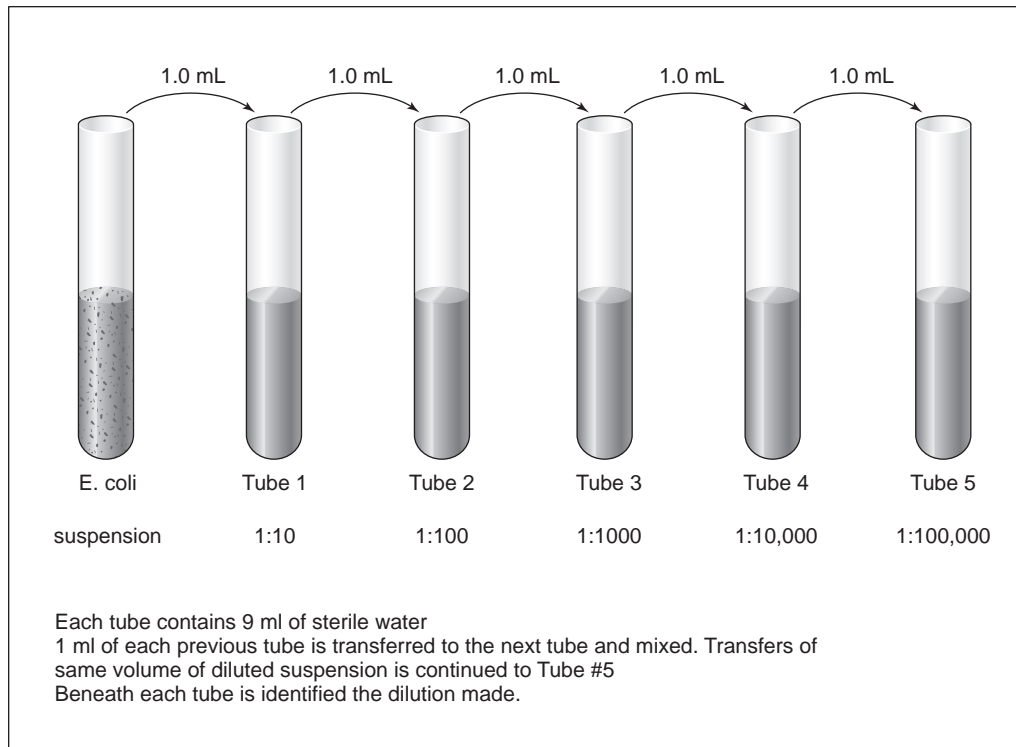

FIG. 4.2. Serial dilution of a bacterial suspension.
2. Prepare **serial dilutions** of the original culture tube by transferring 1 ml of culture into a 9-ml tube of sterile H₂O, mixing and removing from this dilution 1 ml to be transferred to another 9-ml sterile water blank tube. Refer to Figure 4.2 on following page. Prepare 5 dilutions (1:10, 1:100, 1:1000, 1:10,000, 1:100,000) of the original bacterial suspension.